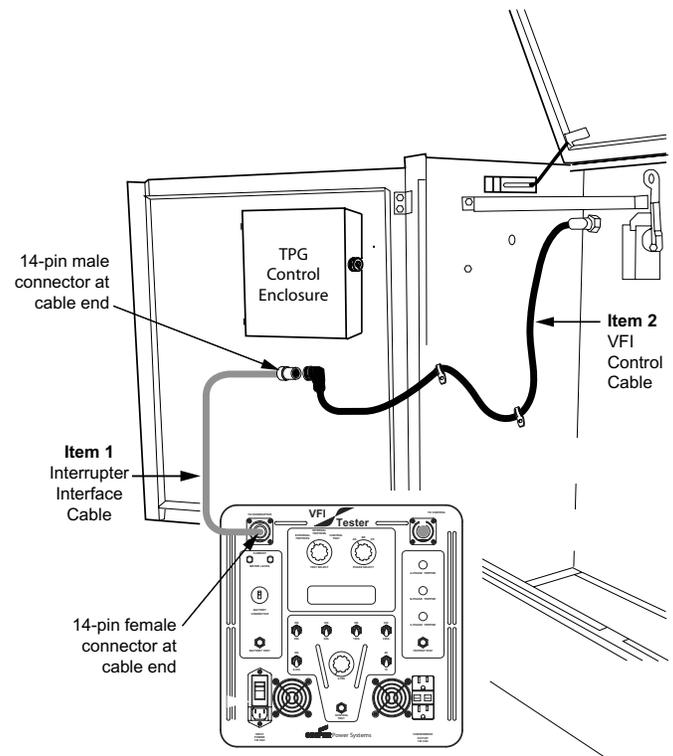

Figure 7. Connection of the VFI Tester to side-hinged VFI units with TPG controls for External Flux-shift Tripper Test.
3. Connect the 14-pin female/14-pin male interrupter interface cable (Item 1) to the VFI Tester at the interrupter port. Refer to Figure 7 for steps 3 through 17.